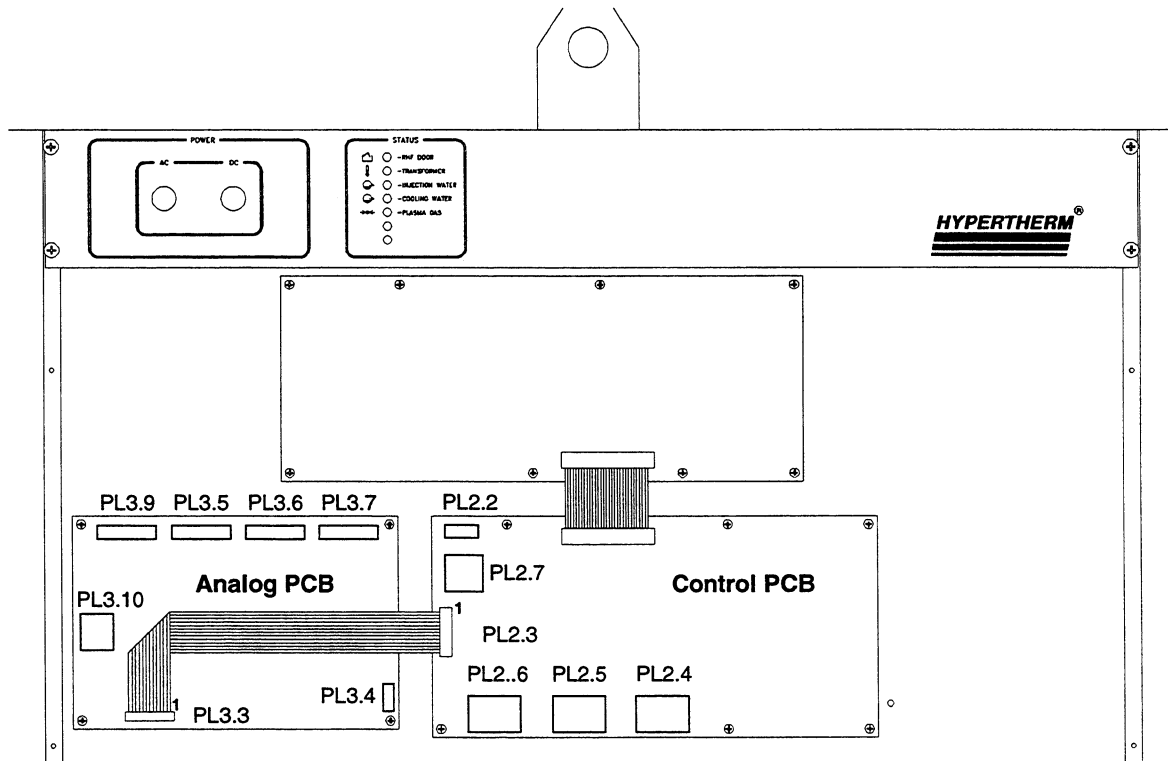

Figure 12 Analog PCB and Control PCB Removal and Replacement
4. Remove all plugs from receptacles on Analog PCB (plug designations are shown in Fig. 12 for reference)
7. Remove all plugs from receptacles on Control PCB (plug designations are shown in Fig. 12 for reference)